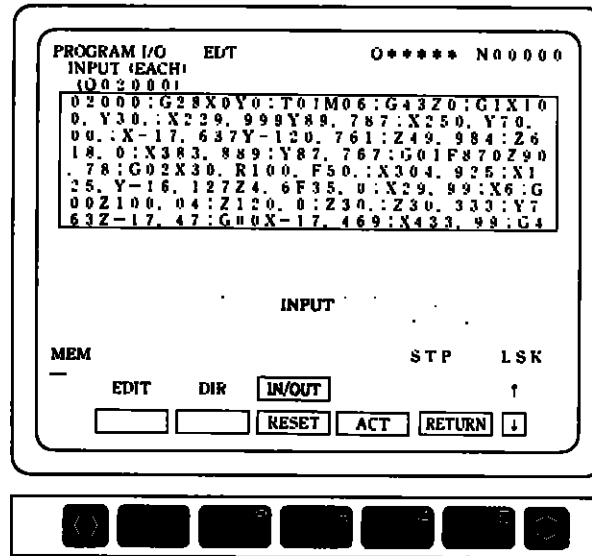

Fig. 3.4.37 Part Program Number Input Screen
- 2 Program input is started and the part program number input screen shown in Fig. 3.4.37 is displayed:
- 2 ● To input programs, depress  . Program input is started, the screen changes, and the contents of the part programs being input are displayed as shown in Fig. 3.4.37.